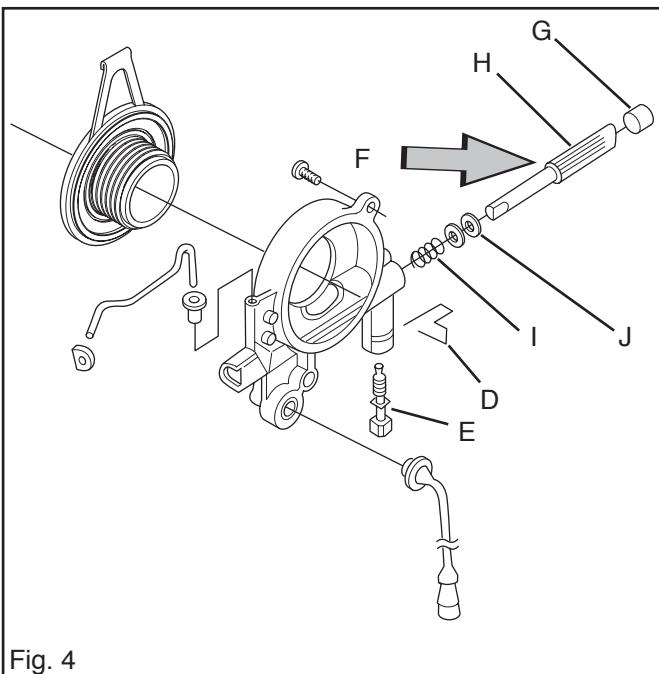

Fig. 4
7. Remove the clip (D) and unscrew the adjuster screw (E). See fig 4.
8. Using pliers, press on the plug piston at F so that the cover plug (G) and piston (H) can be removed. See fig 4.
9. Using pliers, remove the spring (I) and the two washers (J). See fig. 4.
2. Locate the spring (I), 2 washers (J) and pump piston (H) in the pump casing. Oil in all components with chain oil. See fig. 4.
3. Using a screwdriver, push in the pump piston and screw home the adjuster screw (E) fully. See fig. 4.
4. Locate the cover plug. (G). See fig. 4.
5. Fit the clip (D). See fig. 4.